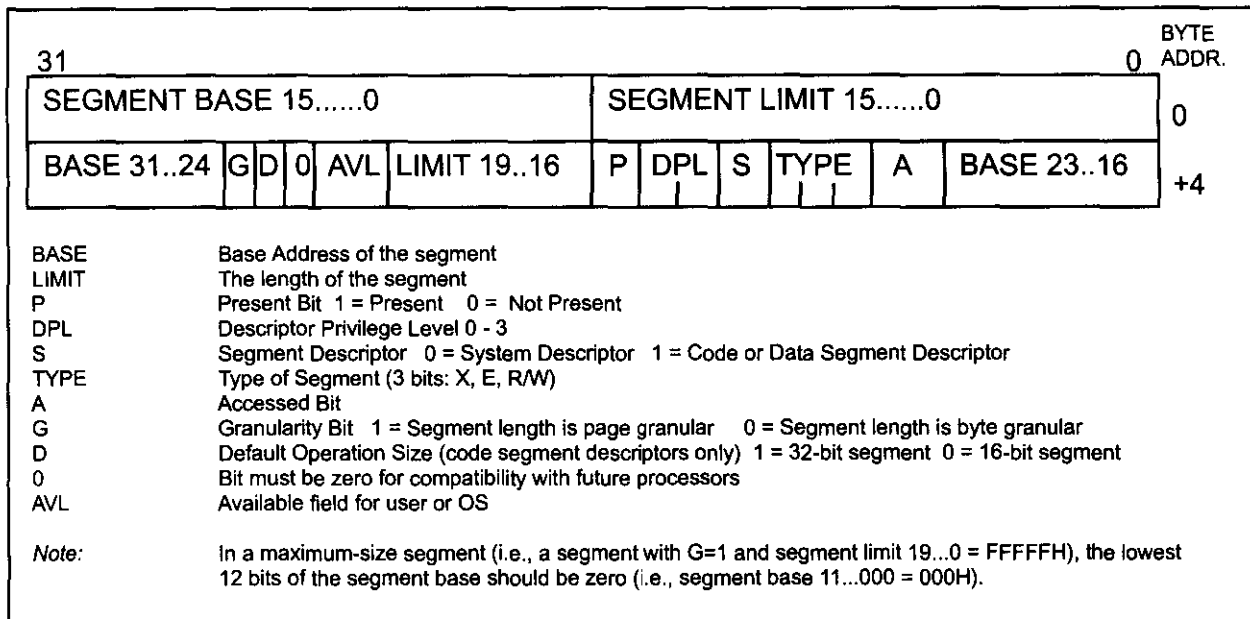

Figure 21-8. Descriptor Table Entry
1. 4 bytes for the A0 - A31 address, where the code (or data) is located in main memory. This allows the 386 to access any memory location within its 4 gigabyte address space. Notice in Figure 21-8 that A23 - A0 is provided by bytes 2, 3, and 4, but A31 - A24 is provided by byte 7.
From Figure 21-8 we have the following access byte for code and data.
Looking at the 8 bytes of the descriptor table, one might ask why Intel did not assign 32-bit physical addresses of desired code or data in consecutive bytes, instead of using bytes 2, 3, 4, and then byte 7. The reason is the 80286 CPU. In the 286 protected mode, bytes 2, 3, and 4 are used for the 24-bit address (A0 - A23), and bytes 6 and 7 had to be zero. This led Intel to use byte 7 for the A31 - A24 part of the physical address of the 386. Byte 6 is used for raising the limit and the G bit, among other things. See Figure 21-8.